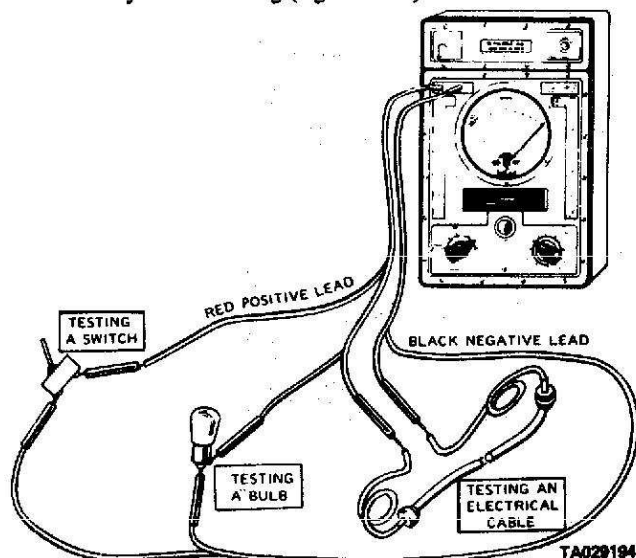

Figure 2-17. Using Meter to Test Continuity.
(3) Connect the meter probes to both terminals of the circuit you are testing (figure 2-17).